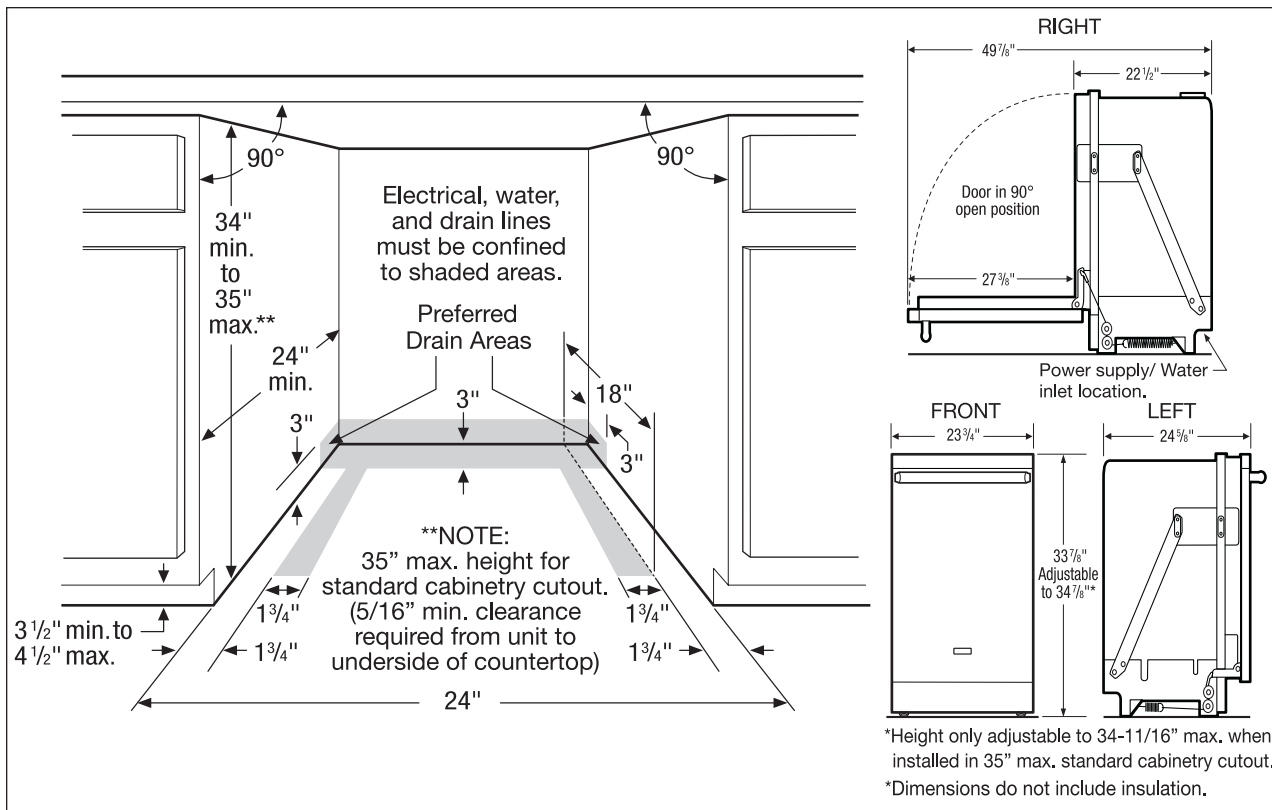

Figure 2-3. Rough-in Dimensions
IMPORTANT: For proper operation and appearance cabinet opening should have dimensions as shown in Figure 2-3. If unit is to be placed in a corner, there must be at least a 2-inch side clearance to open door.
1. Review dimensions in Figure 2-3 to locate dishwasher's drain, water, and electrical connections. All utilities must be routed in the shaded areas of Figure 2-3.
4. Cut access holes for the electrical, water and drain hoses in the shaded areas as shown in Figure 2-3.